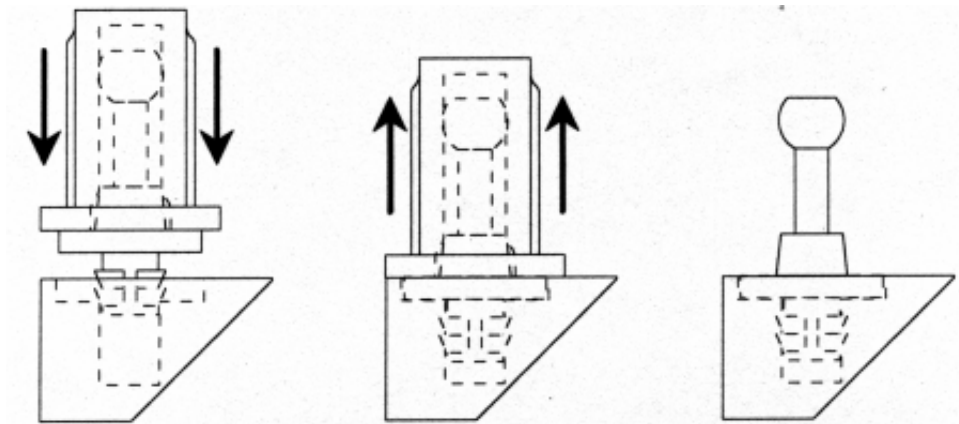

Figure 2.6 - Installing grille pin into Ascendant grille frame. Note that after installation, the grille pin flange is flush with the surface of the grille.
5. Place the exposed end of the grille pin in the open mounting hole. Check to insure that the grille cloth is not trapped between the pin and frame. Use a small hammer and gently tap the new grille pin in place. Then, pull the insertion tool off the new pin and verify that the pin flange is flush with the surface of the grille. Please refer to Figure 2.6.